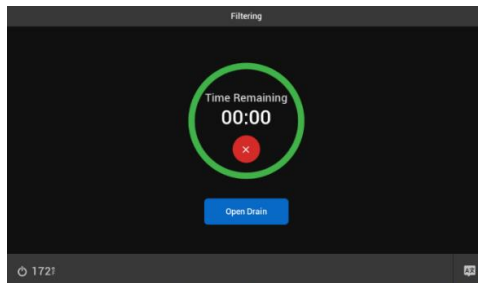

Figure 72 - Open Drain
- Click the **Open Drain** button to drain the water once the timer is 00.00 (green circle) **Figure 72**